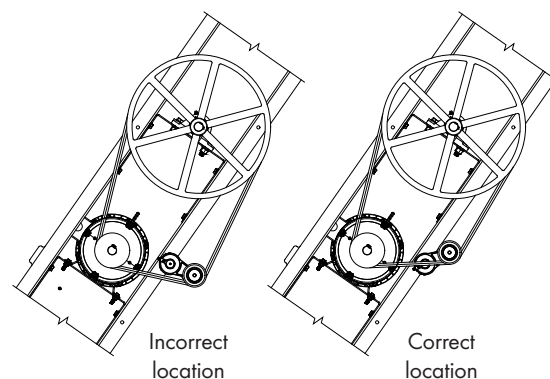

Figure 18A
- 8) **BELT TENSIONING:** Check condition of belt, if worn, replace belt. If belt is in good condition then make sure the tensioner is in the correct position. Looking from the inlet of the fan, the correct position of the tensioner is approximately the 2 o'clock position. See Figure 18A.